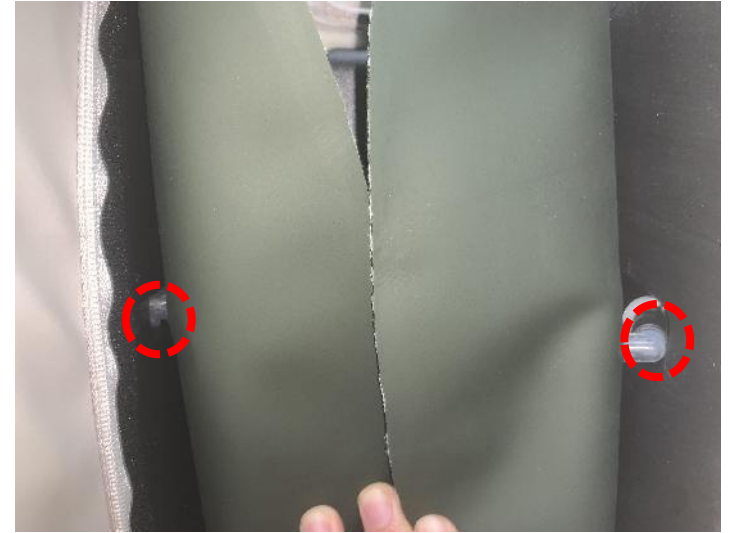

Figure 3
3. The air bag can be removed by separating the trachea (Figure 3)
4.12. Removal of lower leg kneading cloth and replacement of air bag (1)